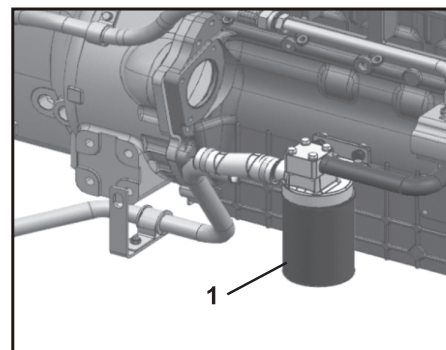

Fig. 5-13a
5.16 Transmission / Hydraulic Oil Filter Fig. 5-13a